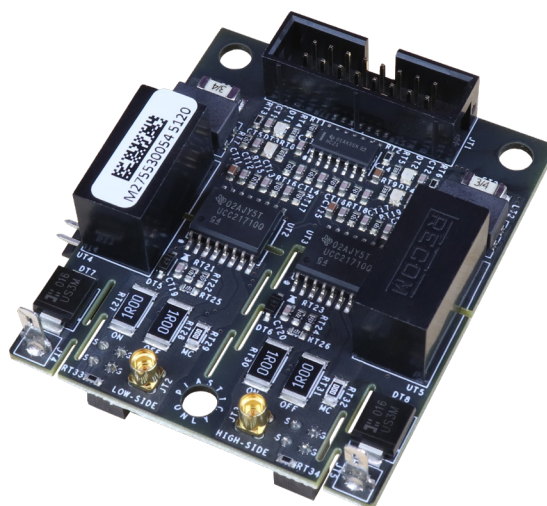

Figure 23: CGD1700HB2M-UNA gate driver
The CRD200DA23N-GMA inverter uses three CGD1700HB2M-UNA gate drivers, shown in Figure 23, to independently drive the three onboard power modules. These gate drivers use the Texas Instruments UCC21710 gate driver integrated circuit (IC) and are rated up to a DC-bus voltage of 1500 V. By default, these gate drivers use 0 Ω external turn-on and turn-off resistors ($R_{G(EXT),ON}$ and $R_{G(EXT),OFF}$). For users wanting to evaluate the performance with different gate resistors, the gate resistors can be easily changed on the gate driver board. The resistors are standard 2512 (6432 metric) footprint resistors. The default resistors are Vishay Dale® CRCW25120000Z0EGHP. To maximize performance, it is recommended to use pulse-rated resistors when replacing/changing the gate resistors. See PRD-06992 for more information about the CGD1700HB2M-UNA gate driver and changing the gate resistors.